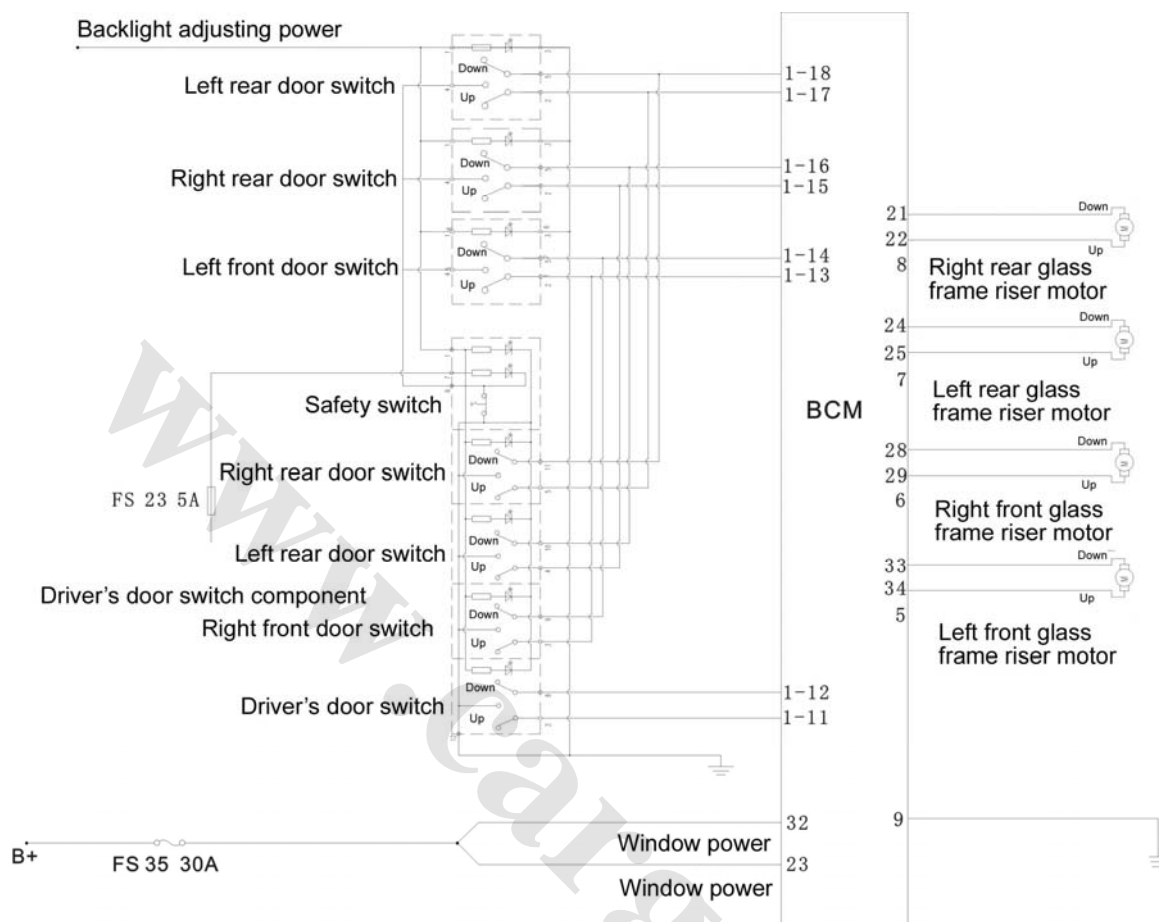

Fig. 4-37
5. Power window circuit (Fig. 4-37)